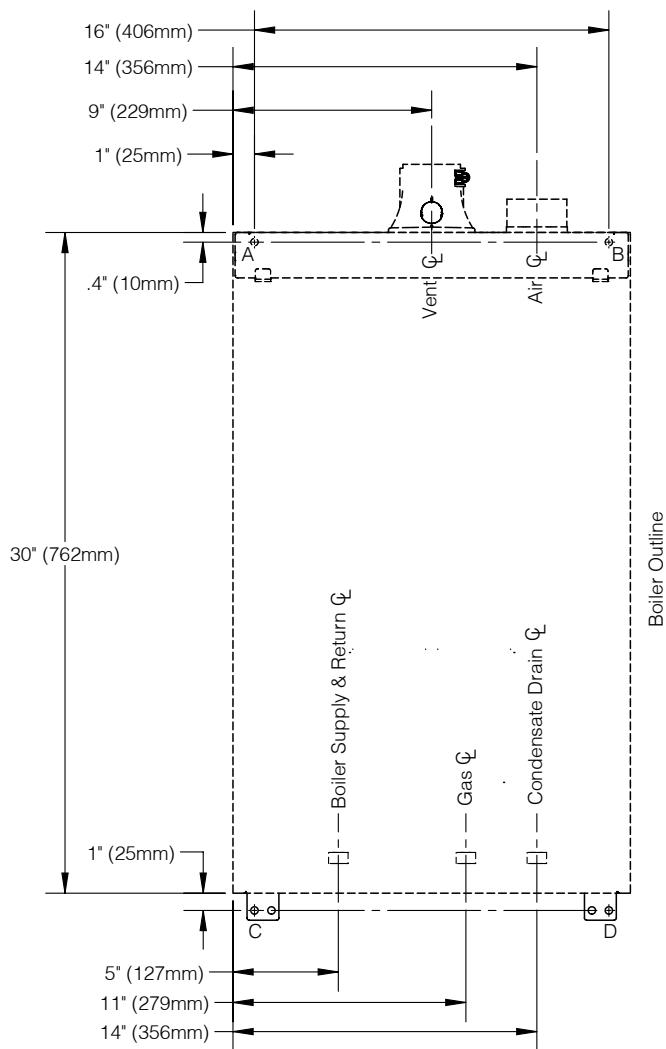

Figure 6-3: Wall Layout and Mounting Holes
2. Mark wall bracket hole locations using dimensions shown in Figure 6-3. Ensure bracket is level.